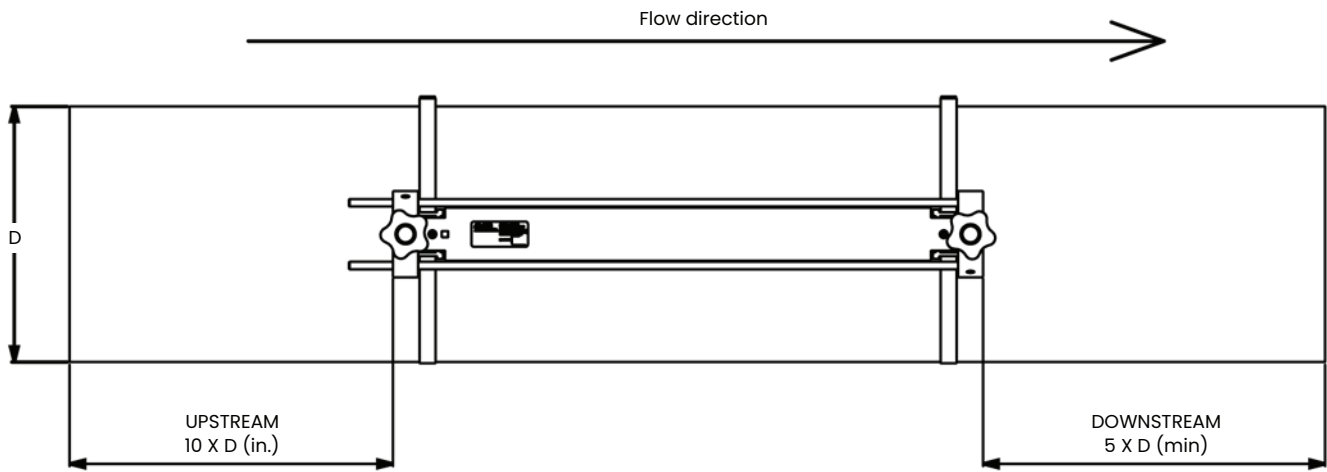

Figure 7: AT600 clamp-on fixture/transducer location
- Position the clamp-on fixture(s) and transducer system so that there are at least 10 pipe diameters of straight, undisturbed flow upstream and 5 pipe diameters of straight, undisturbed flow downstream from the measurement point (see figure 7 below). Undisturbed flow means avoiding sources of turbulence in the fluid such as valves, flanges, expansion joints, elbows, swirl, and cavitation.
- a. Choose a location with enough straight pipe run (refer to figure 7).